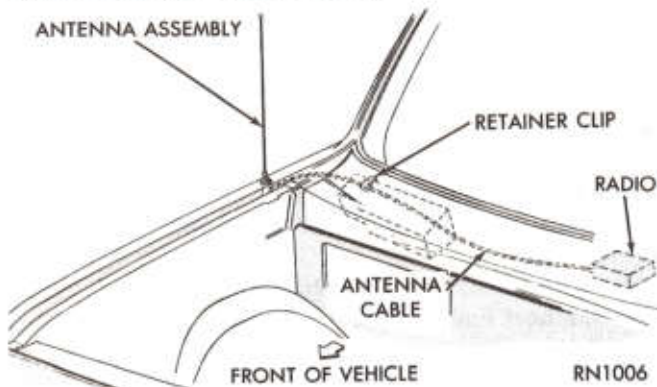

Fig. 7—Removing Antenna Cable
- (4) Working through the glove box opening, pull antenna cable from retainer clip (Fig. 7).